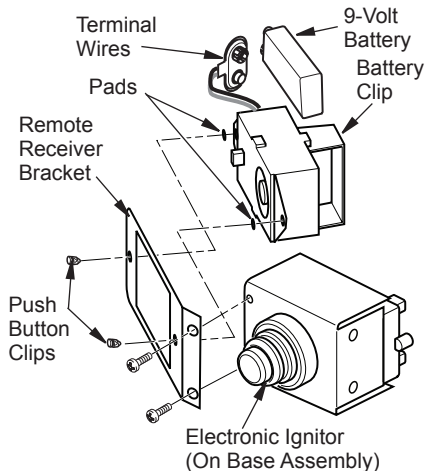

Figure 18 - Installing Remote Receiver Bracket
6. Install receiver bracket to base with phillips screws provided in hardware kit as shown in Figure 18.
8. Install remote receiver into receiver bracket using pads and push button clips provided with receiver (see Figure 18).
2. Locate the battery clip mounted on the back of the receiver (see Figure 18, page 16).